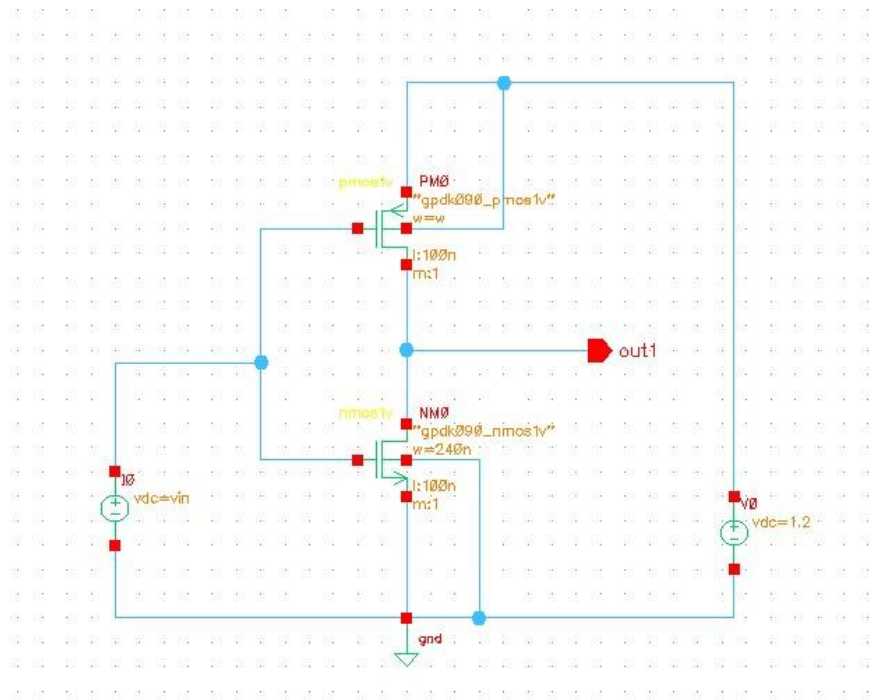

Figure 1: Schematic diagram of CMOS inverter with DC input
- After this a schematic view was showed and under **gpd090** library design CMOS Inverter using pmos1v, nmos1v, vdd, vdc and gnd shown in figure 1